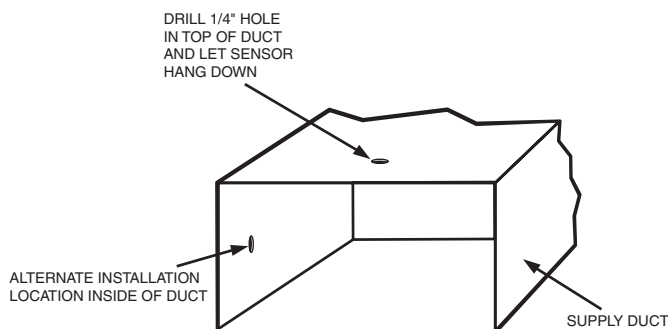

Fig. 22 — DAT Installation Location
See Fig. 22 for mounting location.
1. Drill or punch a ¼-in. hole in the supply duct. See Fig. 22. Duct sensor can be installed to hang from top of duct or from the sides. Sensor probe can touch side of duct.